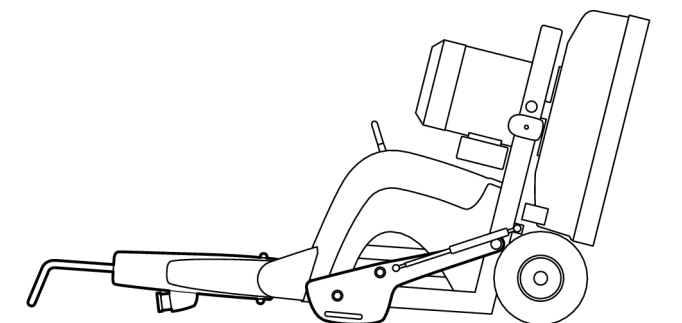

Figure 4-10.
4. Tip the machine further back, until all of the machine reaches the floor, see Figure 4-10, page 21.